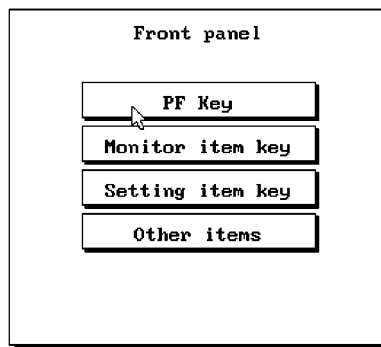

Figure 11
1. From **Setting Menu <Offline>** select **Front Panel**. A pop-up menu appears. Double-click on the **PF Key** (Figure 11).